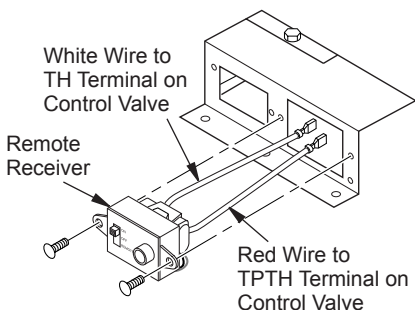

Figure 22 - Installing Remote Receiver
5. Connect wires from remote receiver to control valve as shown in Figure 22.
6. Install remote receiver unit onto remote/blower bracket using screws provided (see Figure 22).